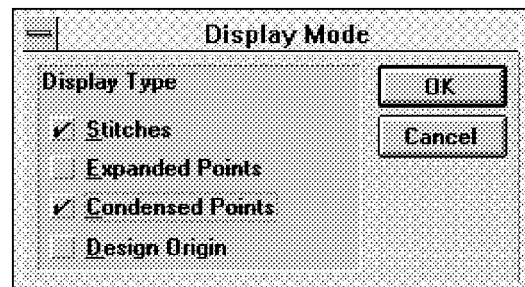

Figure 3-9
3. Inside the Display Mode dialog box, shown in Figure 3-9, click on the Condensed Points check box to place a check mark in the box. You should also see that there is a check mark in the Stitches check box.